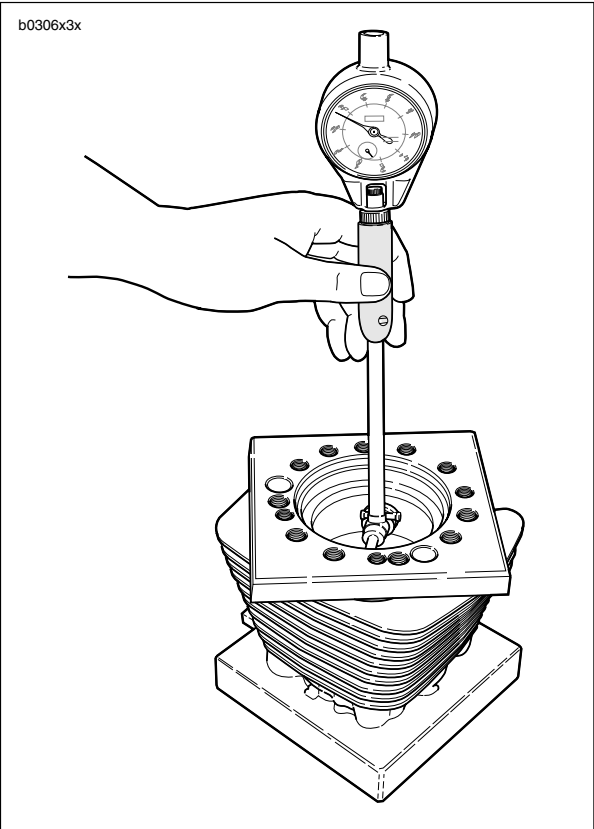

Figure 3-90. Measuring Cylinder Bore Using Torque Plates (Part No. HD-33446B)
- 2. See Figure 3-90. Install a head gasket, base gasket and o-rings, and CYLINDER TORQUEPLATES (Part No. HD-33446B) and XL EVOLUTION TORQUE PLATE BOLTS (Part No. HD-33446-86). Tighten the bolts using the same method used when installing the cylinder head screws. See 3.6 CYLINDER HEAD.
- 3. See Figure 3-90. Take cylinder bore measurement in ring path, starting about 0.50 in. (12.7 mm) from top of cylinder, measuring from front to rear and then side to side. Record readings.